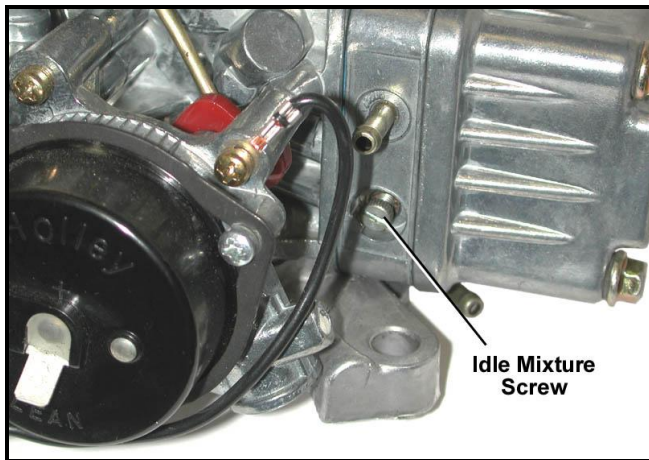

Figure 10
2. Adjust each idle mixture screw (Figures 10 & 11) 1/8 turn at a time, alternating between each screw. Turn them equally, until you achieve the highest possible vacuum reading without adjusting the curb idle speed screw. Turn screws in to lean the mixture. Turn them out to richen the mixture.